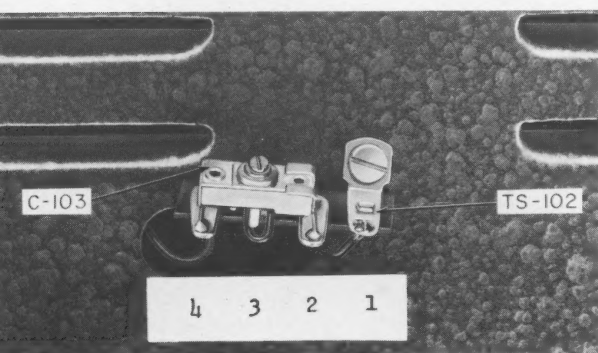

Figure 3: The four-lug terminal strip (TS-102) is mounted on the rear of the case.
(7) Remove the knock-out plate on the rear of the WO-33A case.
(8) Locate and mark a point on the rear of the case $2\frac{3}{8}$ " from the top, and $3\frac{1}{4}$ " from either side (center). At this point, drill a $\frac{5}{32}$ " hole for inserting the TS-102 mounting screw.
(9) Mount the four-lug terminal strip (TS-102) on the rear of the case, as shown in Figure 3. Use the #6-32 screw, with the #6 lockwasher and #6 hex nut on the inside of the case.
(10) Replace the instrument in the case, passing the two wires connected to TS-101 through the knock-out hole.
(11) Cut the two wires so that they extend approximately 2 inches outside the case.
(12) Mount the 4- to 40- $\mu\mu\text{f}$ trimmer capacitor (C-103) on the terminal strip TS-102 between lugs #2 and #4, as shown in Figure 3. (The grounded lug is designated as lug #1.)
(13) Connect the grounded hookup wire